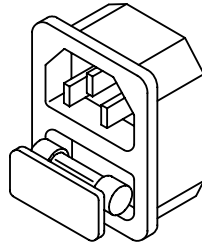

Figure 2-2 AC Line Receptacle
- b. Check the rating of the line fuse and replace it with the correct fuse if necessary. (The line fuse is located below the AC line receptacle see Figure 2-2).